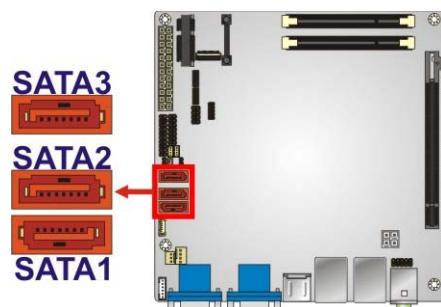

Figure 3-19: SATA Drive Connector Locations
**CN Location:** See Figure 3-19